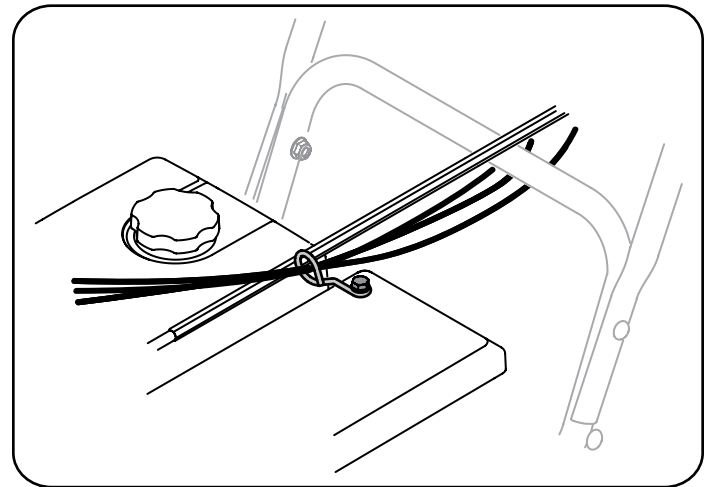

Figure 33
1. Locate cable guide on top of engine and ensure cable(s) are properly routed through the cable guide. See Figure 33.